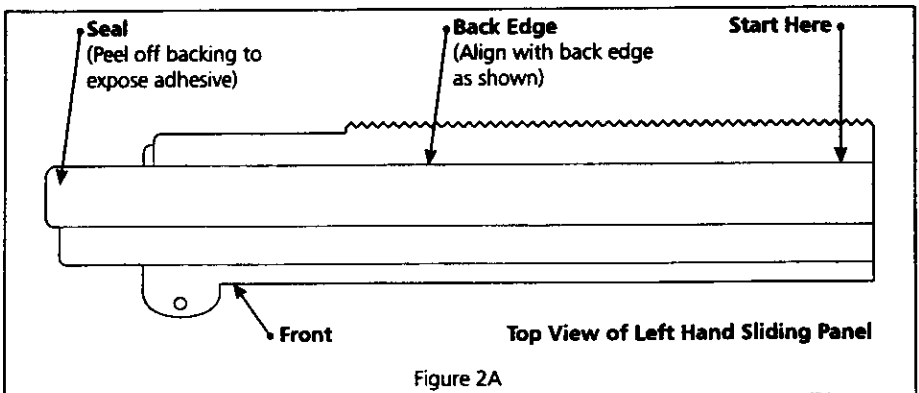

Figure 2A
1. **IMPORTANT:** For optimal performance from your air conditioner, attach foam seals to sliding panels before installation. Raise panel retaining clips to unlock sliding panels. Extend panels. Peel backing off of seal to expose adhesive. Align seal with top inside end of panel and flush with back of ridge (Figure 2A).